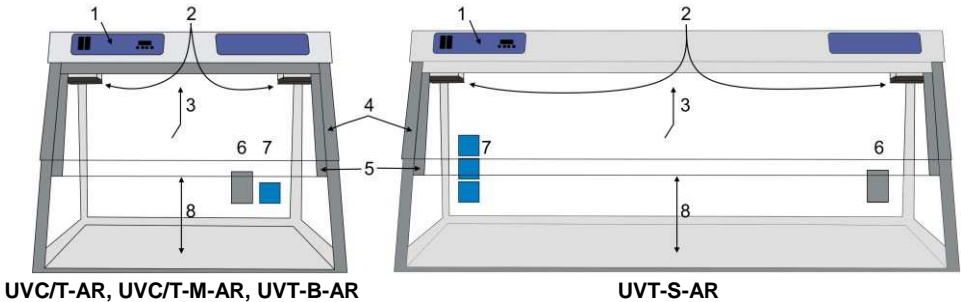

Figure 3. DNA/RNA UV box, frontal view:
- 5.2.1. Turn ON the switch **2** (fig. 2/2) on the control panel (fig. 3/1). This switches on the UV recirculator inside the unit (fig. 3/2) and the open UV-lamp exposition timer. The UV recirculator will operate all the time until the switch **2** is turned OFF.
5.3.1. Turn ON switch **1** (fig. 2/1) for lighting of the working place. This turns ON the luminescent (visible light) lamp inside the cabinet (fig. 3/3).
5.3.2. Lift the front protective screen (fig. 3/5) up for work in the cabinet. Models have different maximum opening heights (fig. 3/8), as listed in the **Specifications** section, and may be raised to the following positions:
**Note.** Do not block the recirculator openings (fig. 3/2)!
5.3.3. To use electric devices inside the cabinet, pull their power cable through the inlet and close the flap (fig. 3/6) or connect the power cable to a built-in mains socket (fig. 3/7, models with mains socket).
7.5. **Dust filter replacement.** The dust filters (fig. 3/2) on either end of the UV recirculator with the hidden UV lamp should be checked monthly and cleaned or replaced when they become clogged. To check, replace or clean the filters, simply unclip the covers, fit a new filter if necessary or rinse current filters in water, dry and place back. Clip covers back in place.